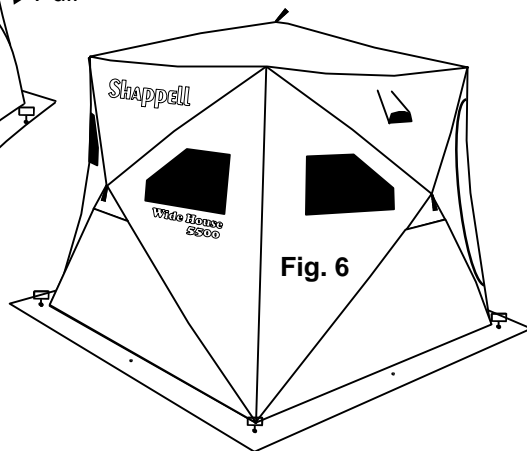

Fig. 6
6) Install remaining Ice Anchors as needed. (Fig. 6)